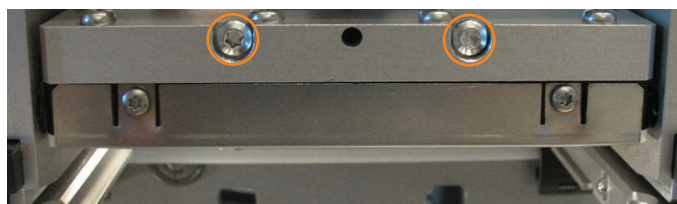

Figure 40. The two screws attaching the pressure head to the pressure unit.
3. Remove the two screws holding the pressure head to the pressure unit; see Figure 40.